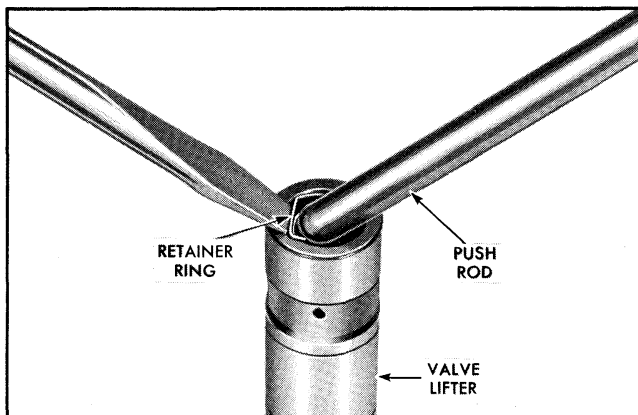

Fig. 6-21 Removing Push Rod Seat Retaining Ring
1. Remove push rod seat retainer ring by holding seat down with push rod while dislodging spring from lifter body with a pointed tool (Fig. 6-21). *NOTE:* It may be necessary to unseat lifter ball, using plunger unloader J-5097, before plunger can be pushed down.